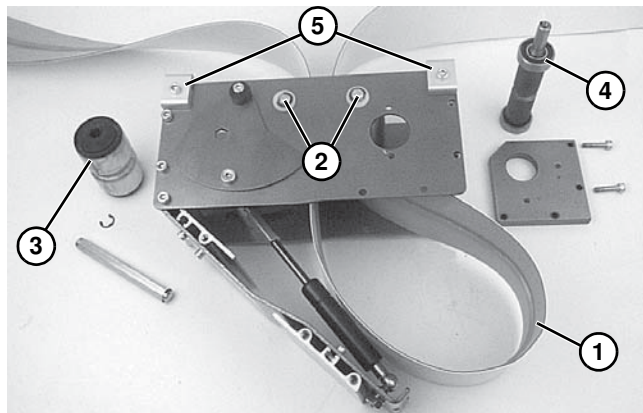

Figure 72
2. Place loop of belt (**Figure 72, item 1**) into the drive module between top idler pulleys (**Figure 72, item 2**).
3. Place grooved idler pulley (**Figure 72, item 3**) into the belt loop and install it in the drive module. Refer to “Belt Removal from Drive Module” on page 34 and reverse step 3.
4. Place drive pulley (**Figure 72, item 4**) into the belt loop and install it in the drive module. Refer to “Belt Removal from Drive Module” on page 34 and reverse steps 1 and 2. Tighten screws (**Figure 50, item 1**) to 60 in-lb (6.8 Nm).
5. Install the drive module onto the conveyor and attach clamps (**Figure 72, item 5**) in each corner. Tighten screws to 60 in-lb (6.8 Nm).